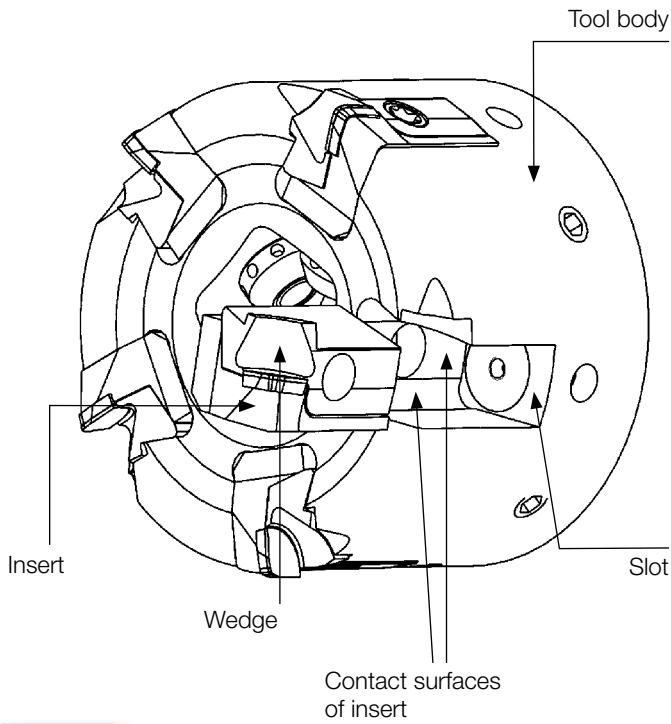

FIG. 3
- Insert cutter together with clamping wedge into the slot on the base body, to prevent misalignment of both components they must be pressed against the contact surfaces of the base body (fig. 3).